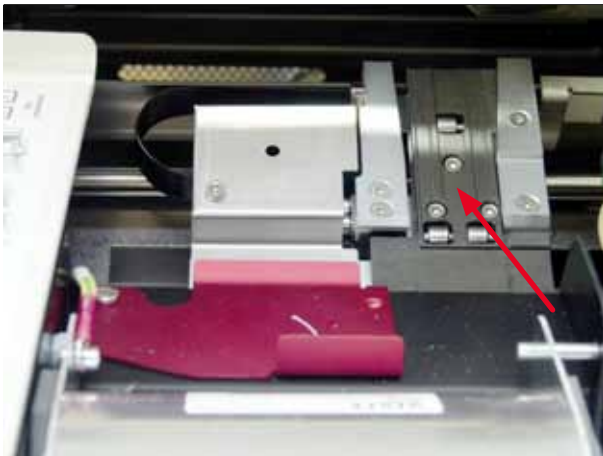

Fig. 45
- Transport station (→ "Fig. 45")